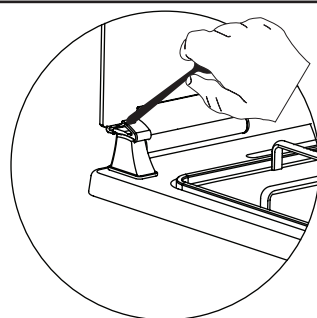

Figure 3
3. As shown in figure 3, the glass door can be closed by pressing the plastic clip with the help of a spoon.